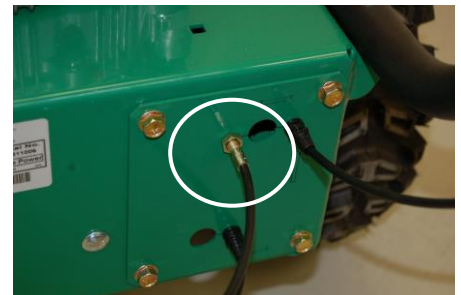

Fig. 8
3. Adjust cable tension by tightening or loosening cable adjustment nut on rear of engine base (See Fig. 8). Be sure to leave enough slack in cable to allow blade brake to engage.